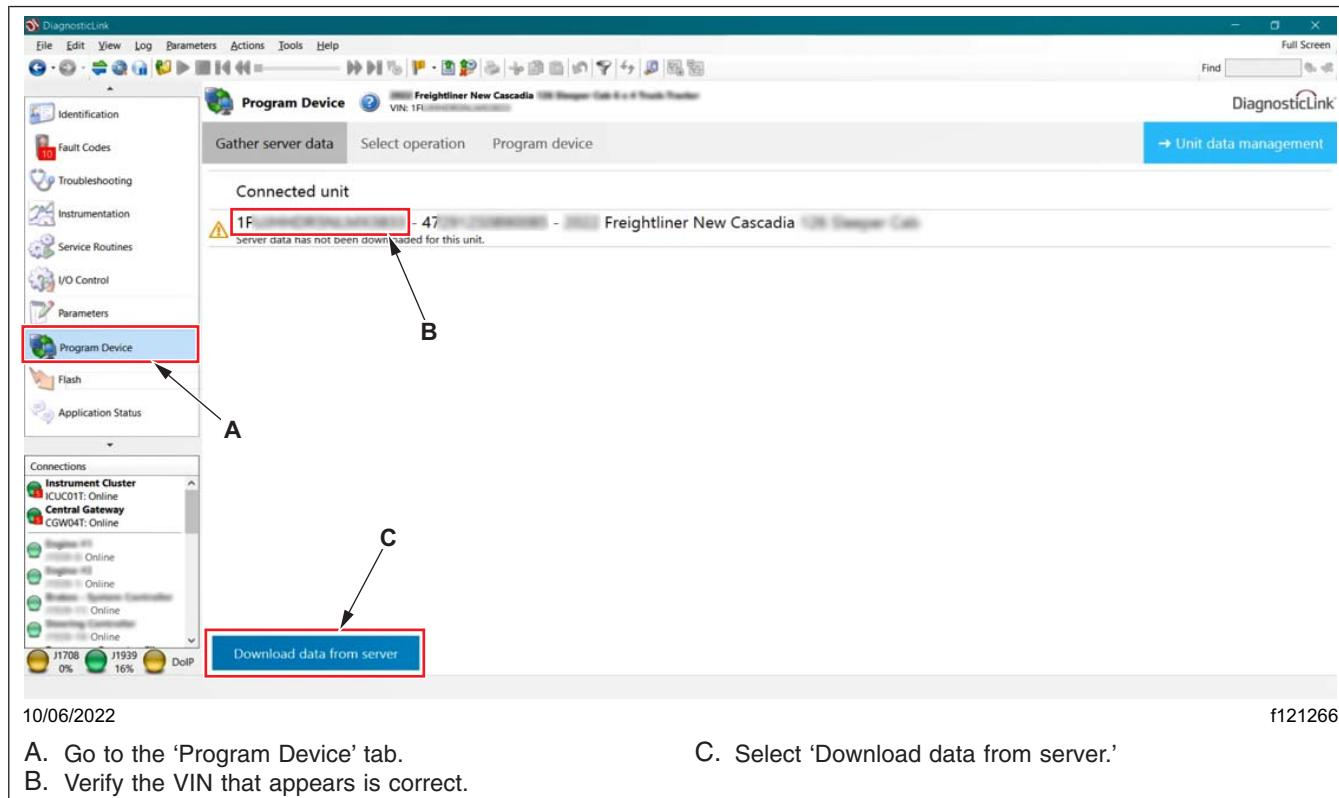

Fig. 29, Downloading the Data from the Server
13. Go to 'Program Device,' and make sure that the vehicle identification number (VIN) that appears is correct. Then select 'Download data from server.' See Fig. 29.